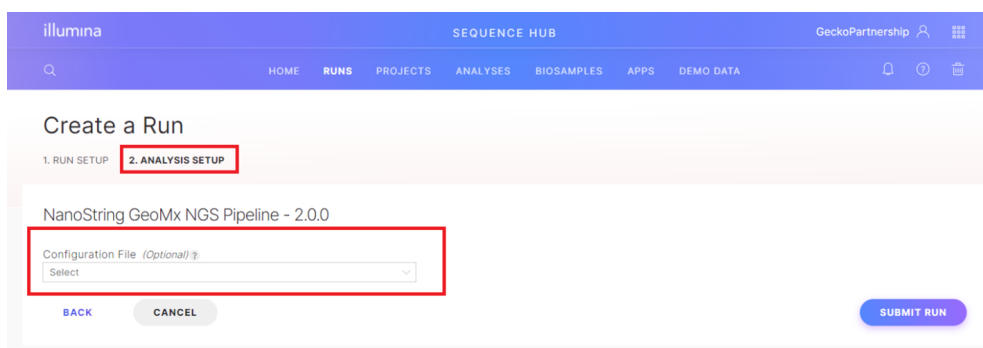

Figure 21: Upload configuration (.ini) file
7. Under tab 2. Analysis Setup, upload the **GeoMx configuration (.ini)** file from the GeoMx DSP readout package (see Figure 21).